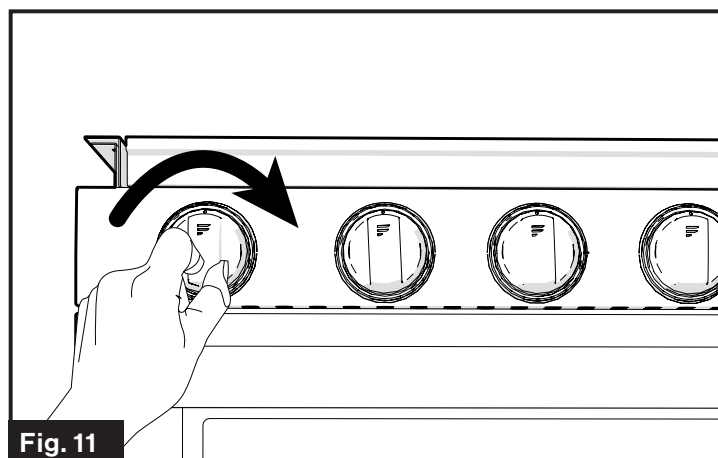

Fig. 11
3. Keep the burner control knob pushed in and turn the ignition knob clockwise repeatedly until the burner is lit. (Fig. 11)